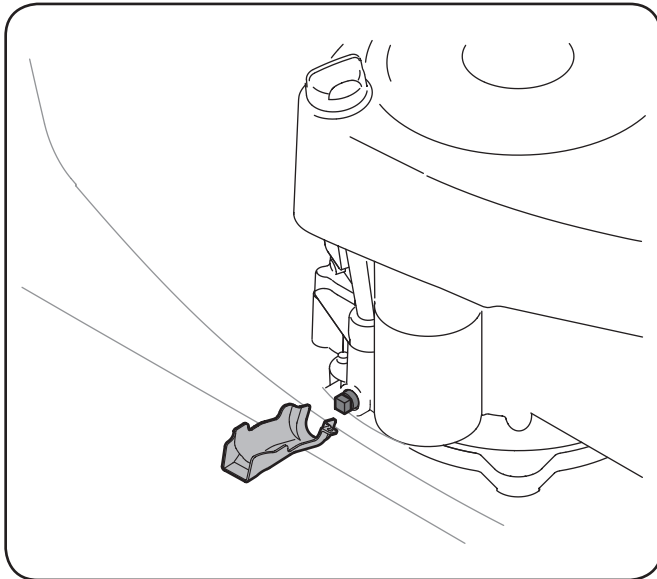

Figure 6-1
2. Snap the small end of oil drain sleeve or tube onto the oil sump. See Figure 6-1.